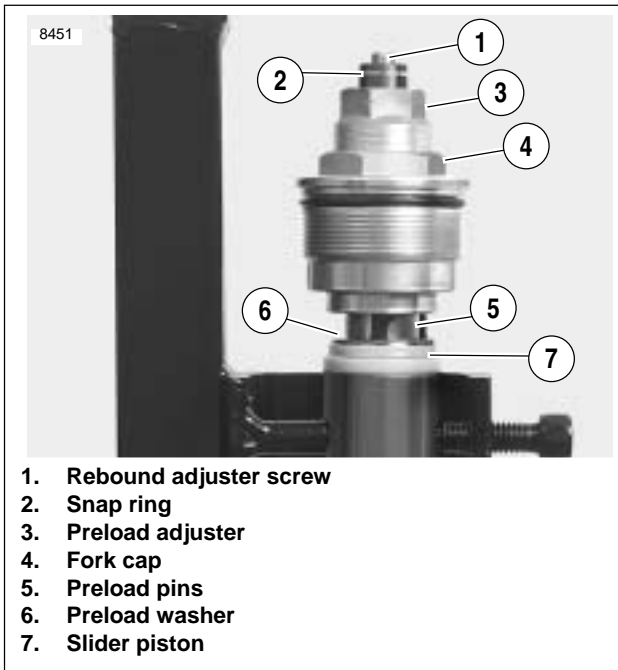

Figure 2-59. Fork Cap Assembly
3. See Figure 2-59. Remove snap ring (2).
1. See Figure 2-59. Lightly turn the rebound adjuster screw (1) counter clockwise till it stops.